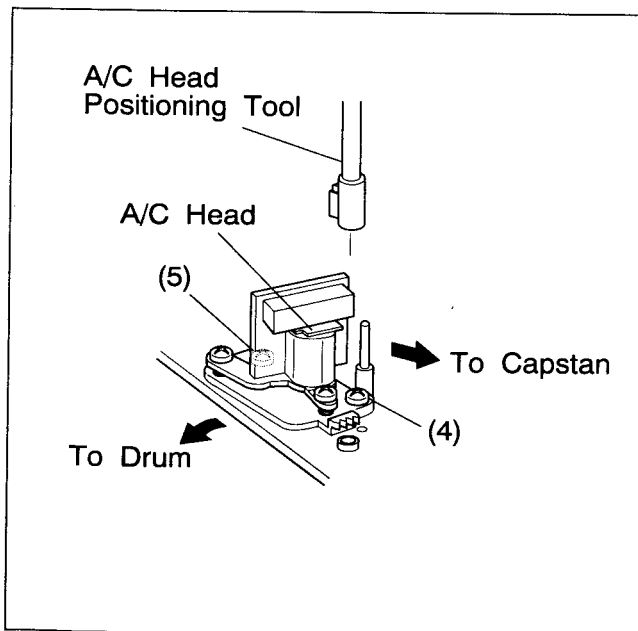

Fig. 2-7-6
- (1) Connect the oscilloscope to TP106(PB FM) on the MAIN board. Use TP111(D.FF) on the MAIN board as a trigger.
- (2) Playback the SP stairstep portion of the alignment tape [MHPE].
- (3) Set the neutral manual tracking position by pressing the **///** button on the remote controller or TV PROG "-" and "+" buttons simultaneously.
- (4) If adjustment is required, slightly loosen screws (4) and (5). Set A/C head positioning tool on the A/C head adjusting boss as indicated in Fig.2-7-6.